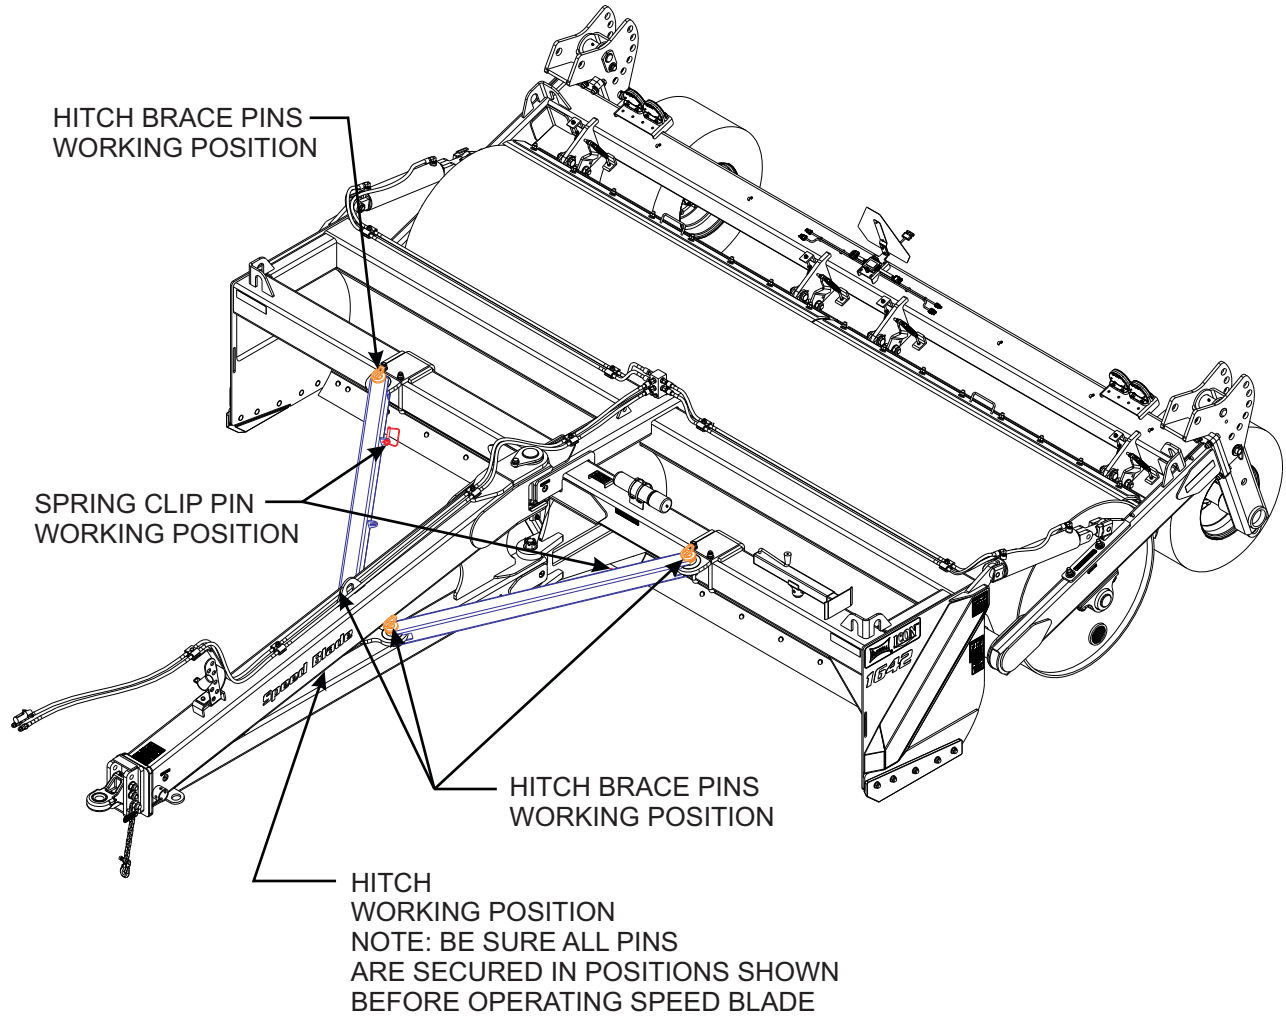

Figure 5-2: Hitch Swing (2 of 2)
- Swing hitch to left or right and secure hitch to side plate with the spring clip pin located in hitch brace working position (**See Figure 5-2.**)
- When the speed blade is unloaded off truck the hitch will need to be swung back to the operating position (**See Figure 5-2.**)
- Be sure all pins are secured in positions shown (**See Figure 5-2.**)